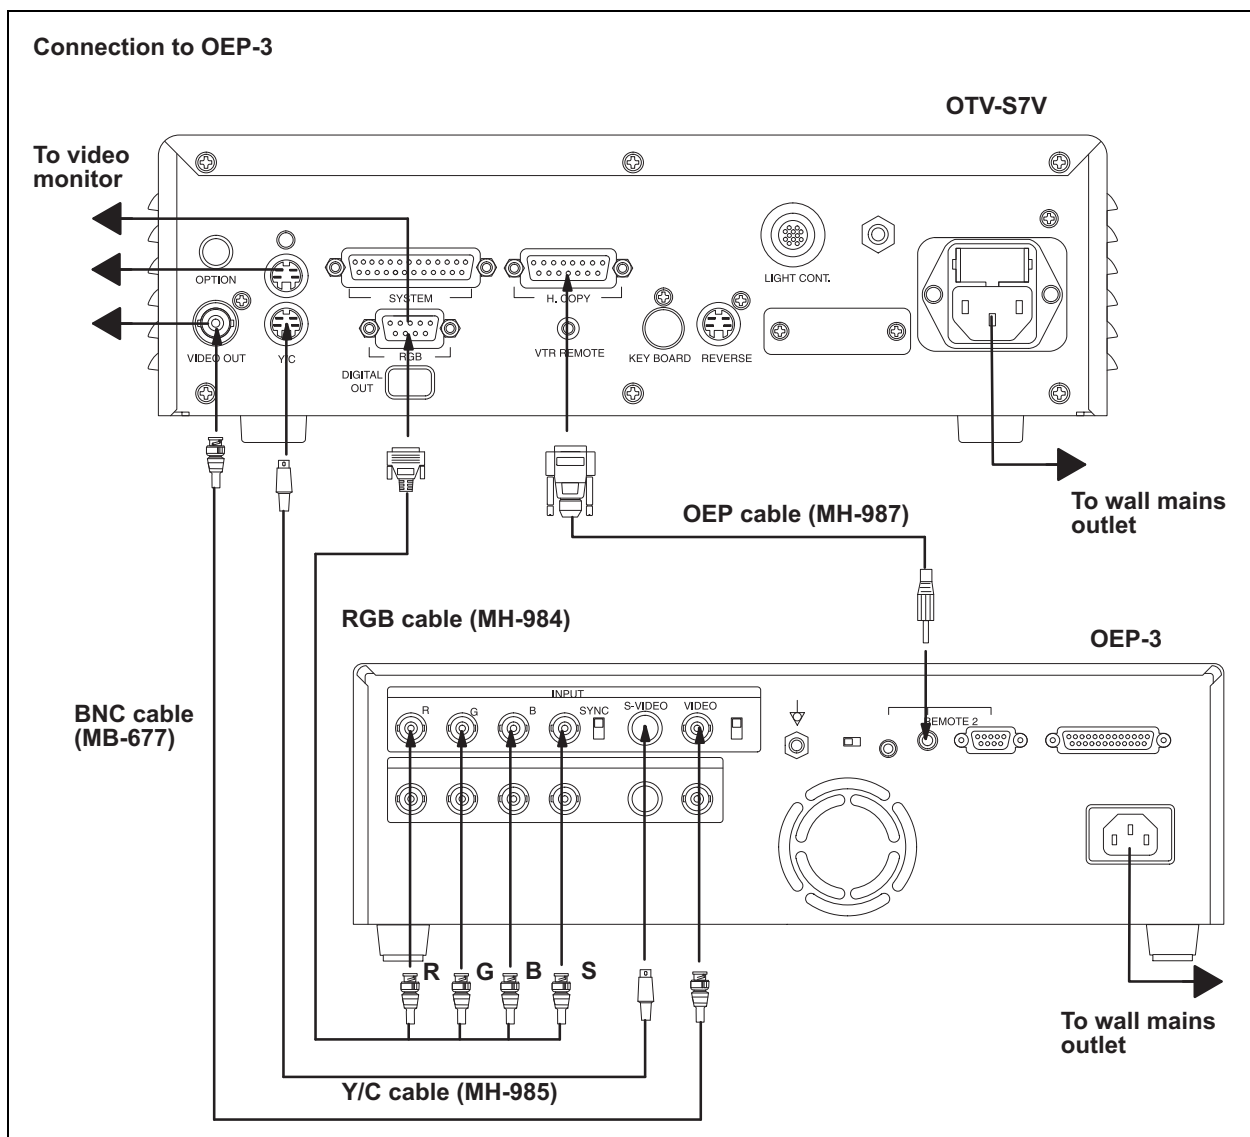

Figure 3.9
2. Connect the OEP cable and Y/C cable, BNC cable or RGB cable to the OEP-3/OEP as shown in Figure 3.9 or 3.10.